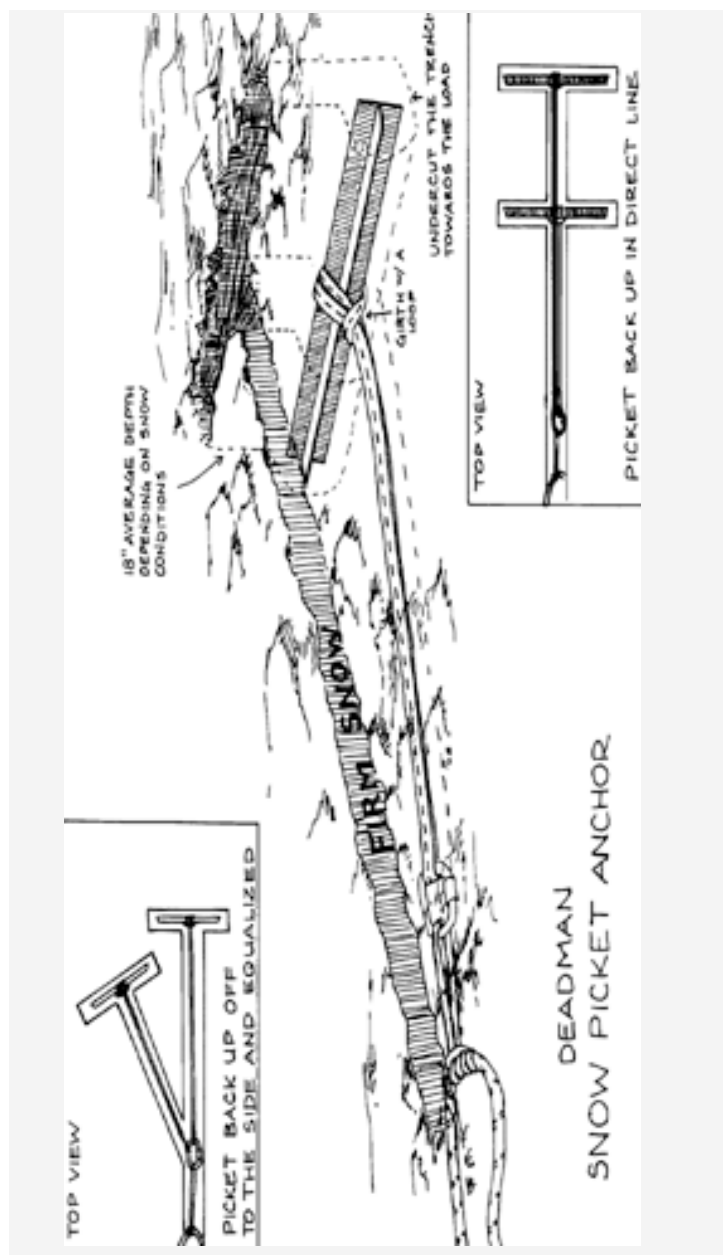

Figure 18-6: Deadman Snow Picket Anchor.
2. Build an anchor. (See the anchor types on figures 18-6, 18-7 and 18-8.)